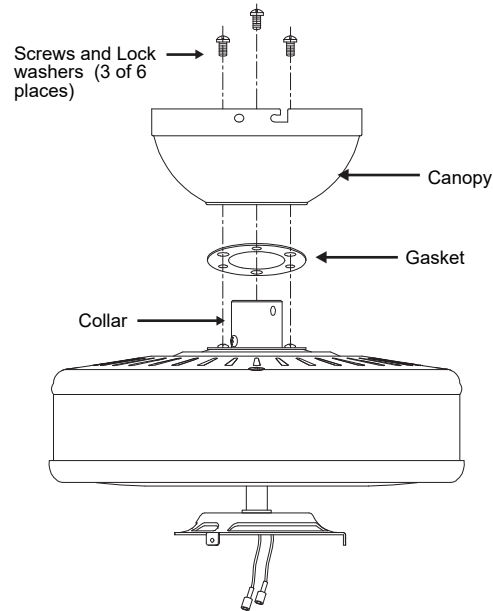

Fig. 8
Step 3. Remove three of the six screws and lock washers (every other one) from the collar of top motor (**Fig. 8**)
Step 4. Place the ceiling canopy and the gasket over the collar at the top of the motor. Align the mounting holes with the holes in the motor and fasten using the screws and lock washers provided (**Fig. 8**).
Step 5. Tighten the mounting screws securely (**Fig. 8**).